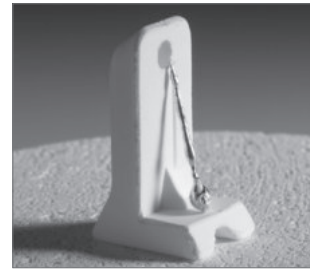

Fig. 2: Temperature too high
- melted down to a ball: Temperature too high (Fig. 2) – reduce calibration value